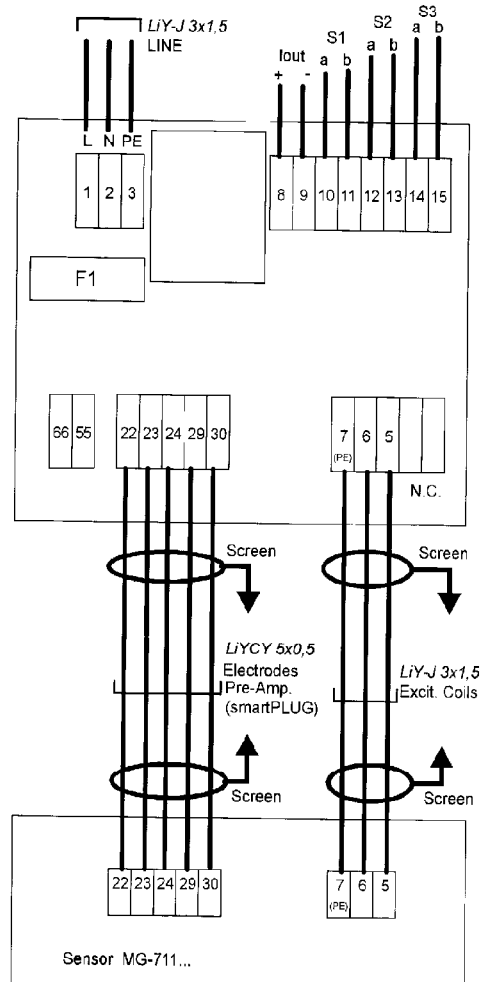

Fig. 4-3: Wiring diagram for INTERMAG
- Fig. 4-3: Wiring diagram for INTERMAG